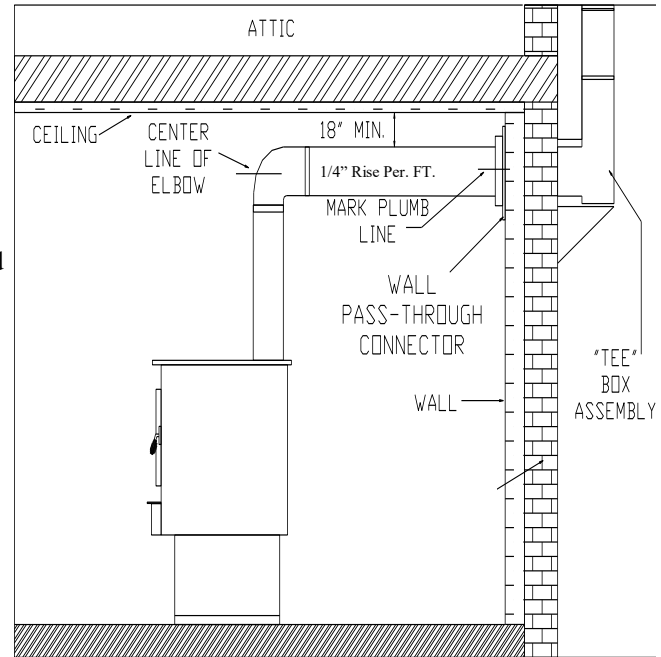

FIGURE 14
1. Mark plumb line on the wall directly behind the center of heater. (See Figure 14.)
3. Measure so there will be at least 1/4" rise per foot of horizontal connector pipe, maintaining clearances to ceiling as noted in Figure 14. This will give you the center of the hole for chimney penetration.
5. Connect chimney pipe to tee-box using #24 ga. minimum black steel pipe. (DO NOT use galvanized pipe.) Each section should fit into section below or into opening on stove, for drip-free operation. Secure each section together by using at least three (3) sheet metal screws or rivets.